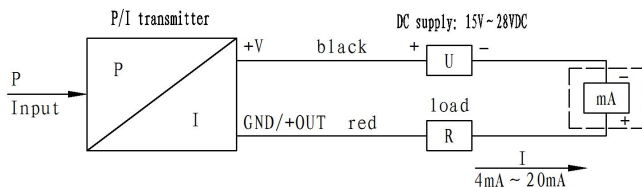
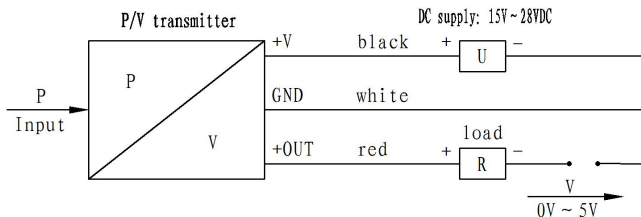

Figure7
Figure8
After installation, please make electrical connection as mentioned on each product certificate card, and take reference as below Figure7 or Figure8.
Two-wire, the electrical connection method of transmitter output 4~20mA DC to see Figure7:
Three-wire, the electrical connection method of transmitter output 0~5VDC to see Figure8:
- b) If the positive and negative polarity of transmitter power voltage is at right connections (see Figure7or Figure8.).